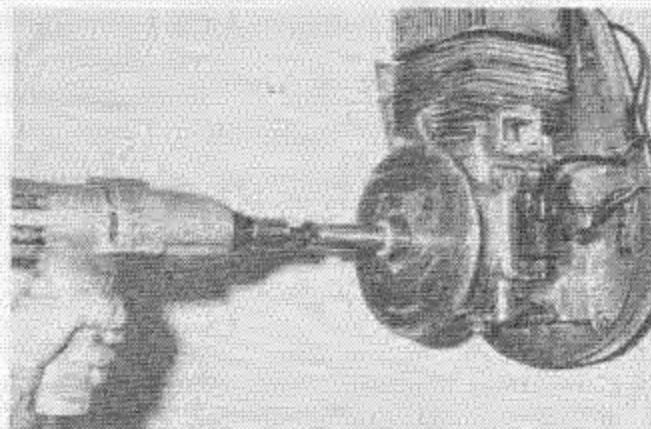

Fig. 3 — Removing Converter Inner Hub
7. Lay engine on its side and fill cavity of inner pulley hub with heavy oil. Thread a suitable bolt into threads of inner pulley hub and tighten with an impact wrench. See Fig. 3. This will force inner pulley hub off shaft.